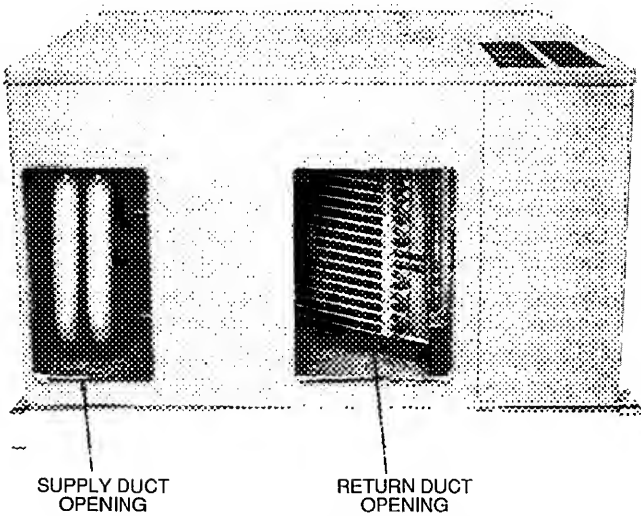

Fig. 16 – Supply and Return Duct Openings
2. Remove return duct cover located on duct panel. Figure 16 shows duct cover removed. Save duct cover and screws.
5. Remove supply duct cover located on duct panel. Figure 16 shows duct cover removed. Save duct cover and screws.